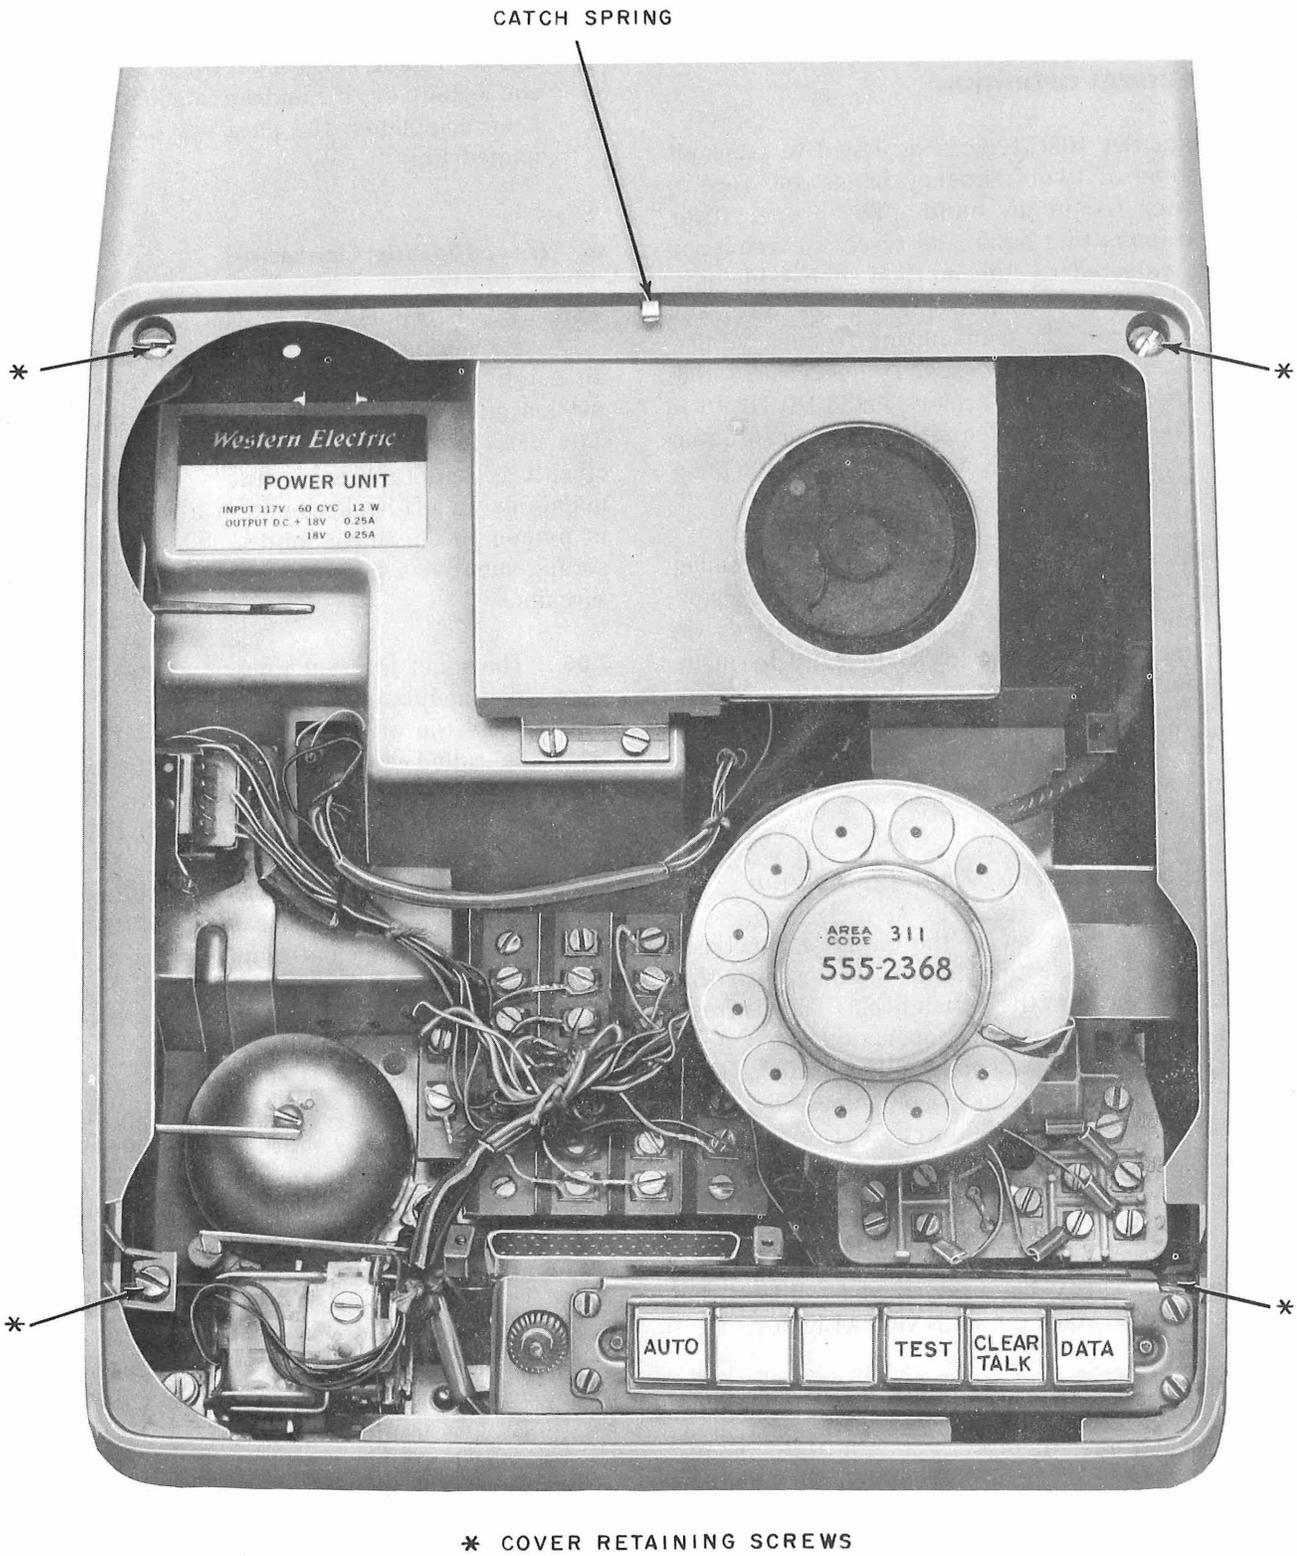

Fig. 2—Data Set 103G-Type—Top View with Cover Removed
**2.04** Data Sets 103G1 and 103G4 are composed of an integrated telephone set, control keys, monitor amplifier with loudspeaker, Data Set 103E5 (the data set electronics chassis), 25A or 49A power unit, D10P-61 mounting cord (5 feet, 3 inches long), and a 3-wire power cord (Fig. 2). The Data Sets 103G2, 103G3, 103G5, and 103G6 use Data Set 103E6 and otherwise are identical to the Data Sets 103G1 and 103G4.